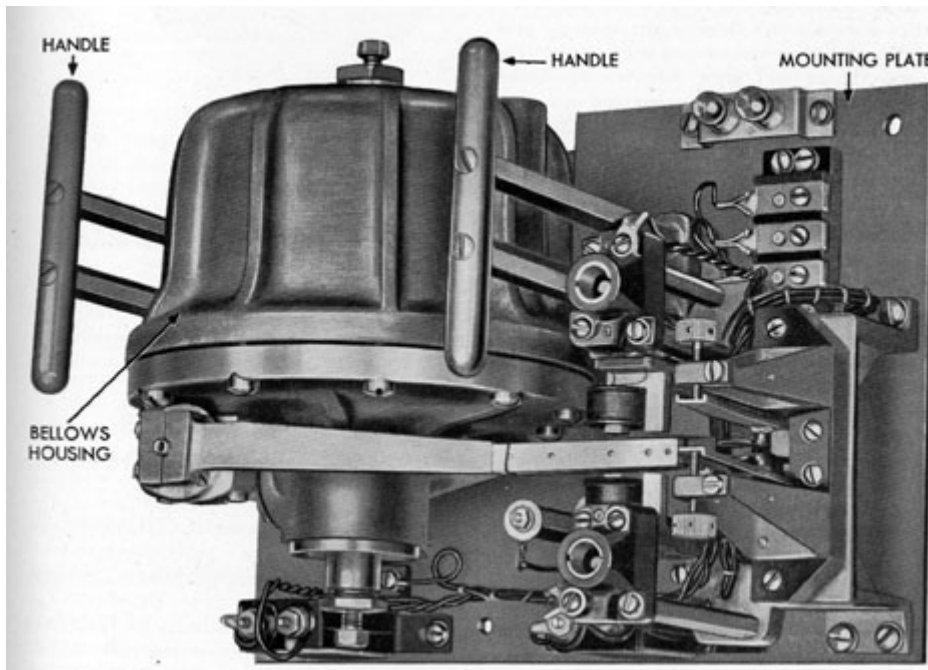

Figure 5-32. Control unit removed from case.
**5K12. Removing the control unit from its case.** (See Figure 5-32.) Remove the cover retaining screws and the cover. Remove the static and dynamic hose from the nipples.
(See Figures 5-32 and 5-33.)